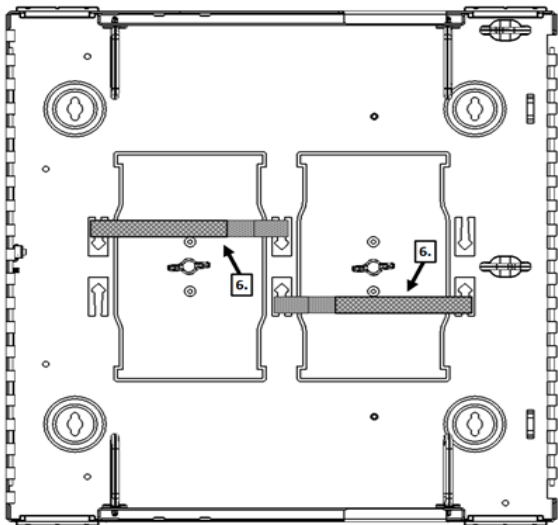

Figure 8
5. Create a snug mating of the Velcro to the trays. (Figure 8).